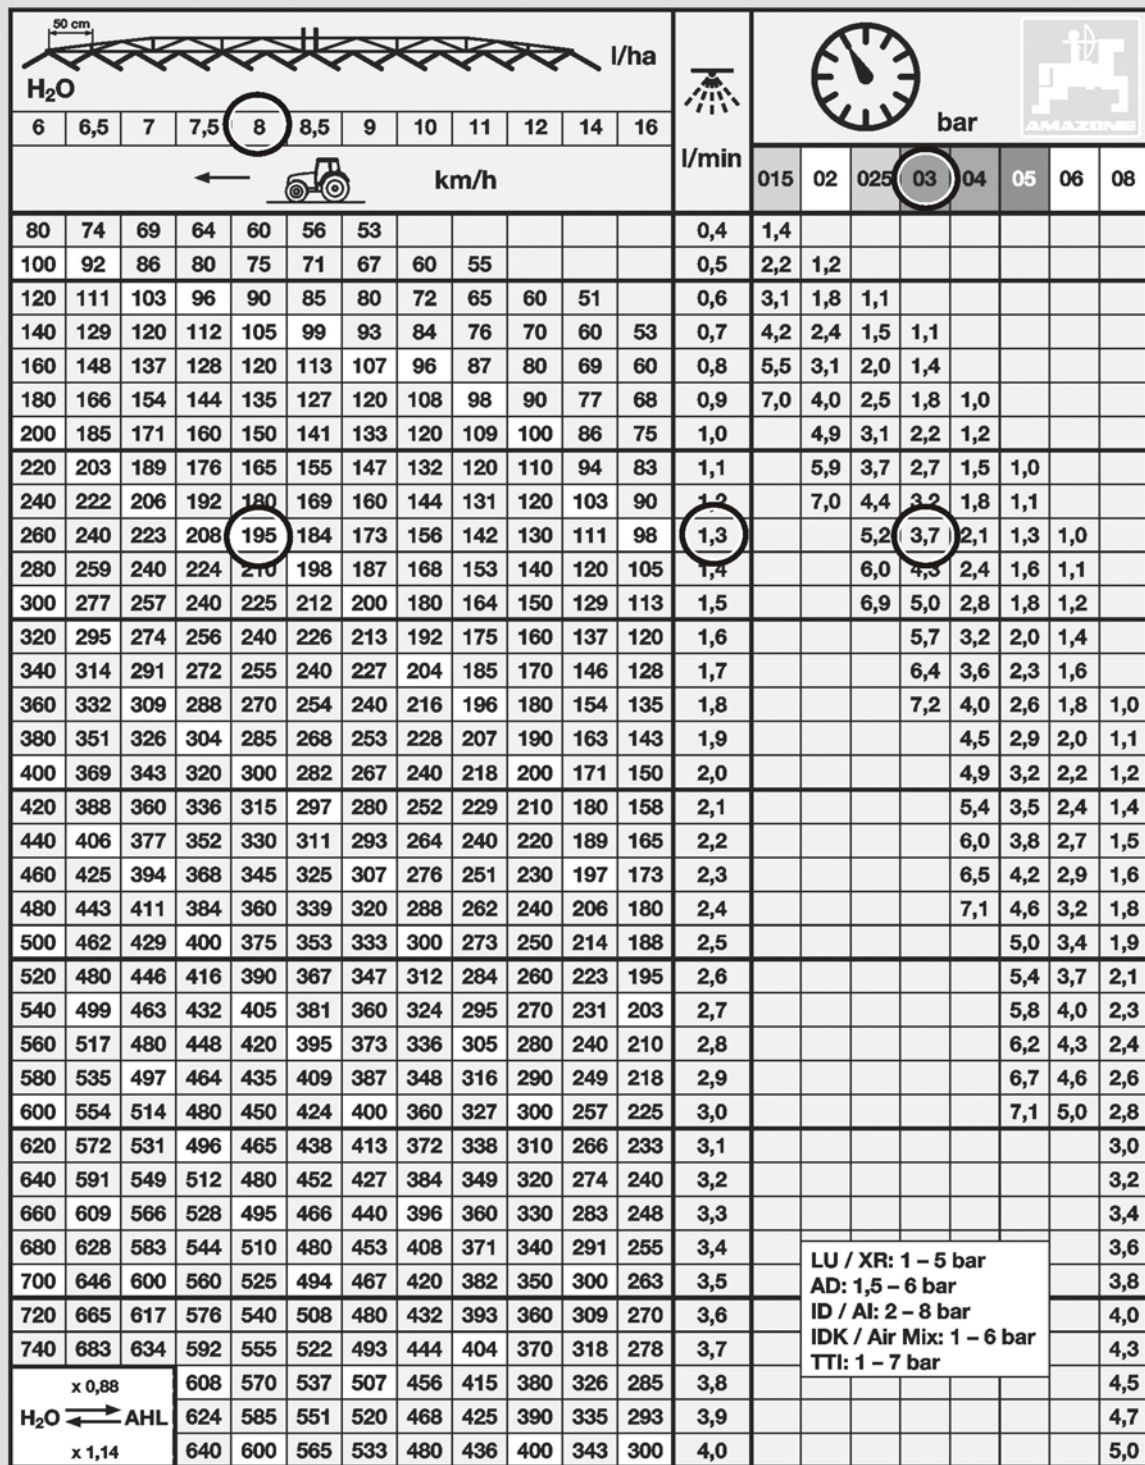

Fig. 10
4. Go to the spray table (Fig. 10).